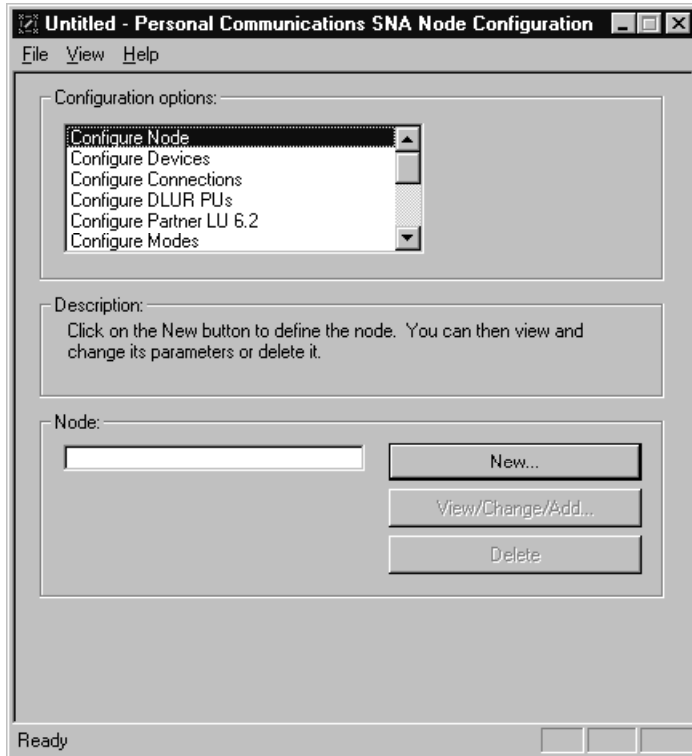

Figure 93. Personal Communications SNA node configuration window
- 2 From the Configuration options list box select **Configure Node** and then **New**, as shown in Figure 93. The Define the Node window appears.
- 1 From the Configuration options list box shown in Figure 93 on page 174 select **Configure Devices**.
- 1 From the Configuration options list box shown in Figure 93 on page 174 select **Configure Connections**.
- 1 From the Configuration options list box shown in Figure 93 on page 174 select **Configure Partner LU 6.2** and then **New**.